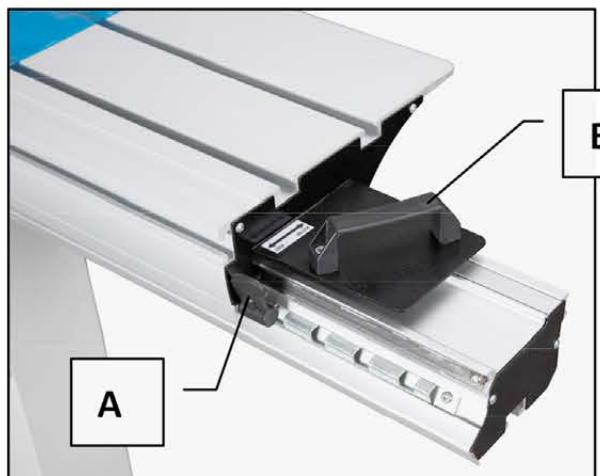

Figure 4-5.1
The sliding table is locked and unlocked by lever A (Fig. 4-5.1)
1. Move the frame for your desired position with handle B (Fig. 4-5.1)
2. Lock knob A (Fig. 4-5.1) for fixing.